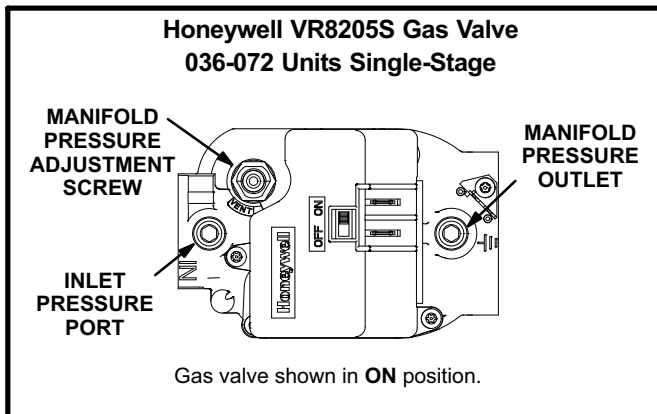

FIGURE 2
Gas Valve Operation (figure 2, 3 and 4)
- 5- *Honeywell VR8205S Gas Valve* - Switch gas valve lever to **OFF**. See figure 2.
- 6- Wait five (5) minutes to clear out any gas. If you then smell gas, **STOP!** Immediately call your gas supplier from a neighbor's phone. Follow the gas supplier's instructions. If you do not smell gas, go to the next step.
- 7- *Honeywell VR8205S Gas Valve* - Switch gas valve lever to **ON**. See figure 2.